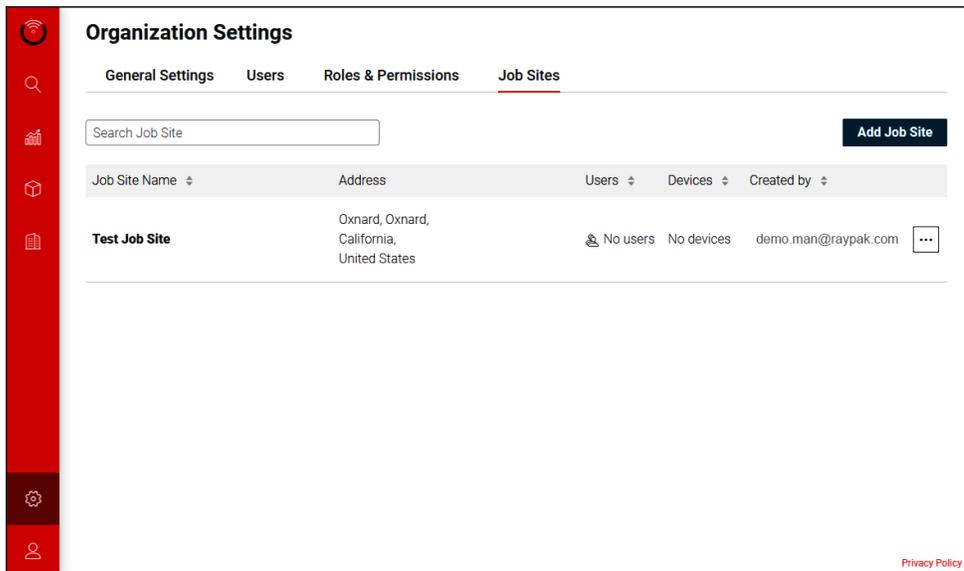

Figure 51. Created Job Site
- The Job Site will now appear. See **Figure 51**.